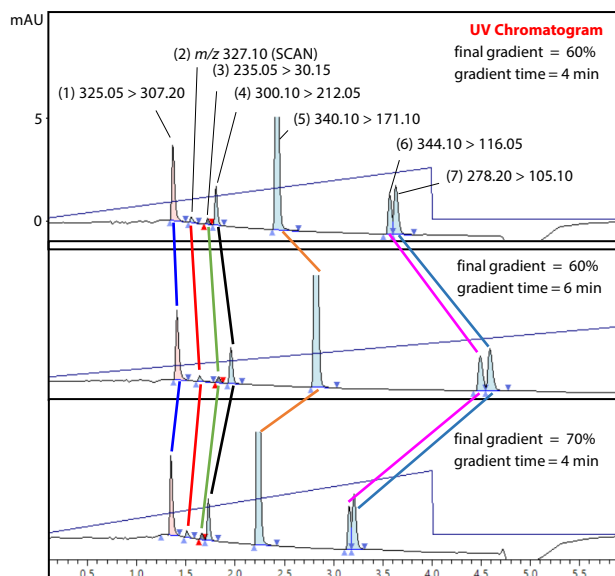
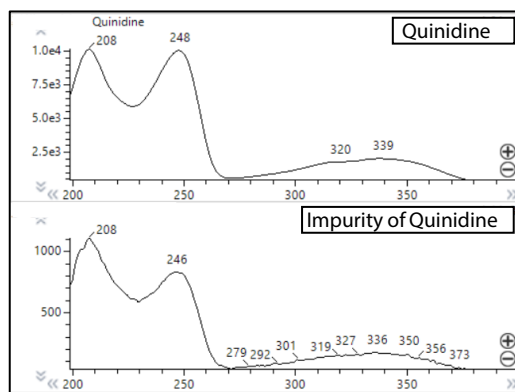
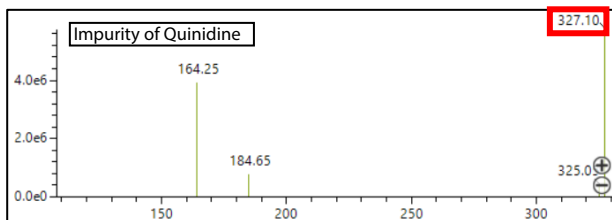
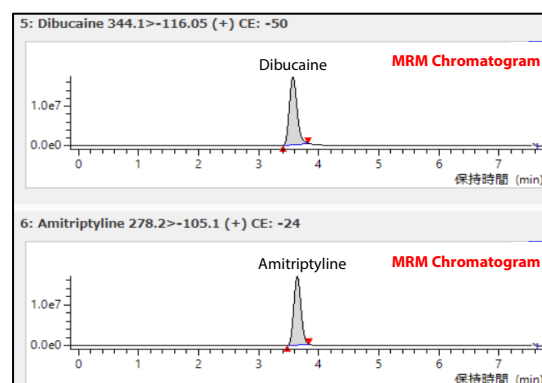

Fig. 1 MS-Based Peak Tracking
Fig. 2 Comparison of UV Spectra between Quinidine and Its Impurity
Fig. 3 MS Spectrum of Impurity of Quinidine by Scan Measurement
Fig. 4 MRM Chromatograms
Fig. 1 shows automatic peak tracking of each compound performed by LabSolutions MD, using chromatograms (partially shown) obtained under different gradient conditions and mass information acquired with LCMS-8060RX. LabSolutions MD enables accurate tracking of impurities and co-eluting compounds based on the pre-registered MRM transitions of each compound (Table 2). For compounds without predefined MRM transitions, peak tracking can also be performed by using mass information from scan measurements (full scan without fragmentation within a specified *m/z* range), allowing all compounds to be tracked based on mass information. As shown in Fig. 1, although the retention times and separation of compounds varied with changes in gradient time and final gradient concentration, all compounds were accurately tracked. Compound (2) in Fig. 1 is an impurity of quinidine. Because its UV spectrum showed a high similarity ( $\geq 0.99$ ) to that of quinidine (Fig. 2), peak tracking using UV spectra alone was considered difficult. However, it was correctly identified using mass information (*m/z* 327.1; Fig. 3) obtained from scan measurements. In addition, dibucaine (Fig. 1, (6)) and amitriptyline (Fig. 1, (7)) were co-eluted, but accurate tracking was achieved even for these unresolved peaks by using product ion obtained from MRM measurements. The MRM chromatograms of dibucaine (Fig. 1, (6)) and amitriptyline (Fig. 1, (7)) are shown in Fig. 4 for reference.